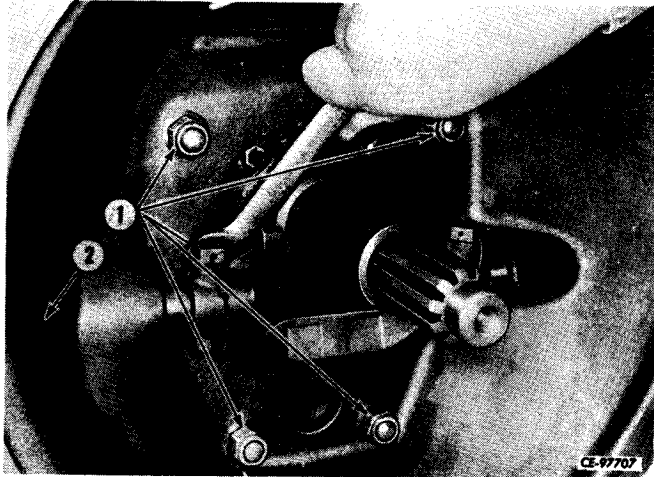

Figure 4-13
Remove nuts (1, Fig. 4-13). Tap the clutch housing (2) from the transmission studs. Tap evenly.